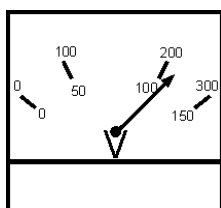
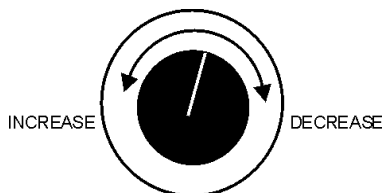

Figure 49. Voltage Meter (Volts)
Figure 50. Voltage Adjust Control Knob
12. The generator's voltage meter (Figure 49) displays the 120 VAC in **VOLTS**. If the voltage is not within the specified frequency tolerance, use the voltage adjustment control knob (Figure 50) to increase or decrease the desired voltage.